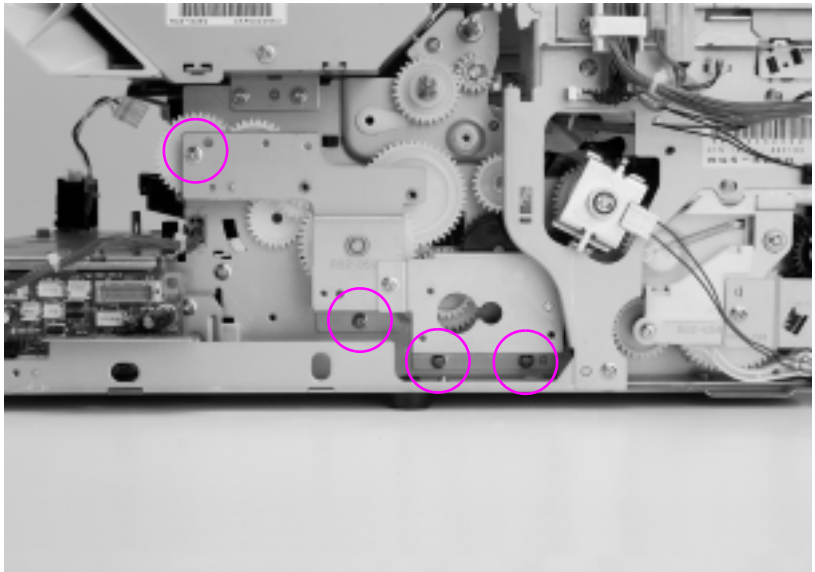

Figure 6-51 Left side gears removal and replacement (1 of 2)
- 11 Remove the four screws shown in Figure 6-51 and remove the sheet metal over the gears.